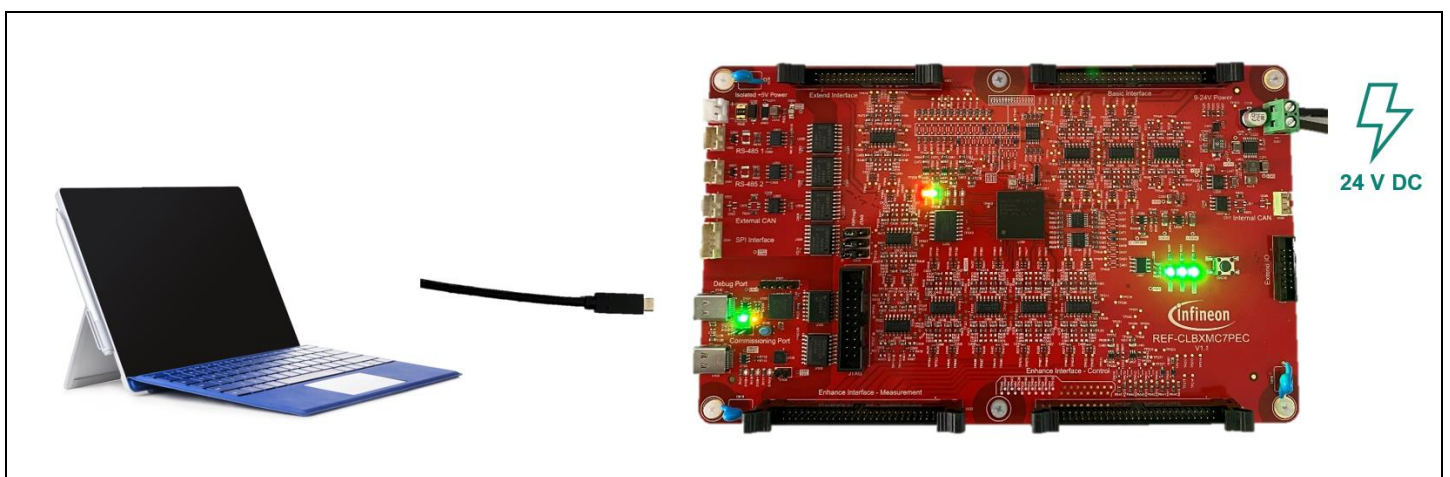

Figure 14 **Board powered on with connections**
3. Power on the 24 V DC power supply. When the board is powered, red and green LEDs (D204 & D205) should start blinking and all three green power LEDs (D208, D209, D210) should turn on as seen in Figure 14.